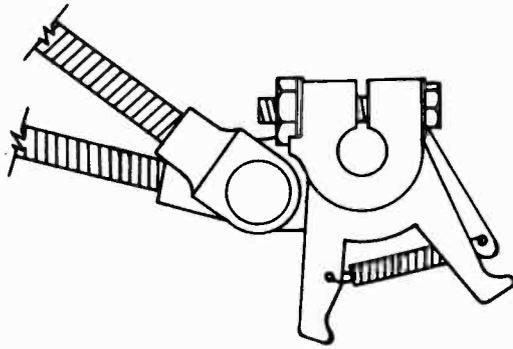

Fig. 6
Blade finger (42) looks like Fig. 6. A visual spacing of approximately $\frac{1}{64}$ " between the rounded edge of the toggle assembly and the Push-off Blade finger when viewed directly from the bottom of the record changer is required. See Fig. 6. Since these two parts lie on different planes, this adjustment must be made by observation only.
- 7 While holding the Push-off Blade and Record Shelf Assembly tight against the Housing (6), push the Index Toggle Assembly (41) against the spacer (40) and tighten the lock bolt.
8. Tighten the Push-off Blade bracket lock bolt, leaving approximately $\frac{1}{64}$ " clearance between the shoulder of the Record Shelf shaft and the Push-off Blade finger bracket (42).